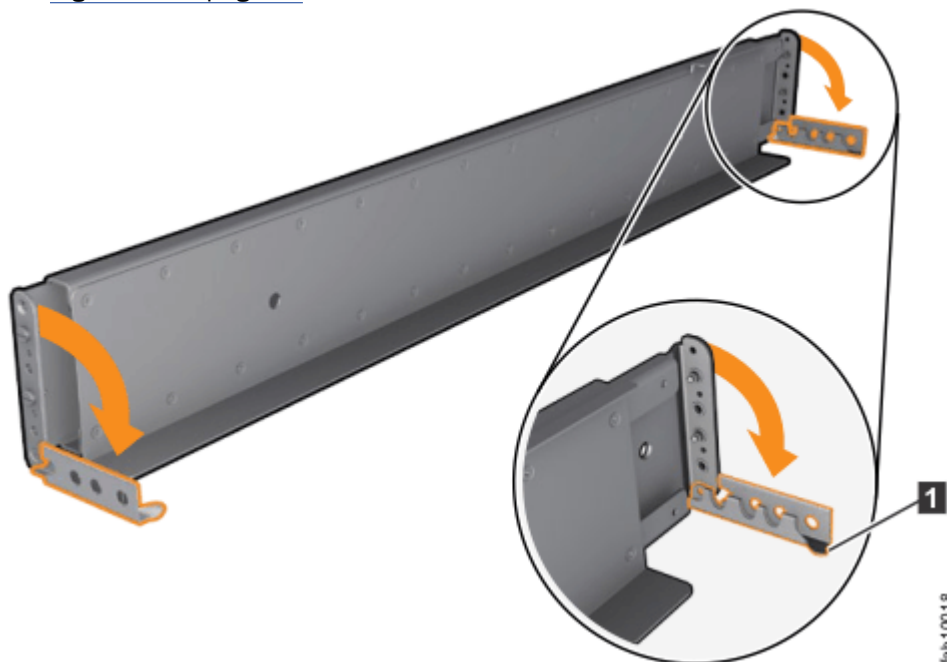

Figure 10. Opening the hinge brackets
4. At each end of the rail, grasp the tab **1** and pull *firmly* to open the hinge bracket. See Figure 10 on page 14.